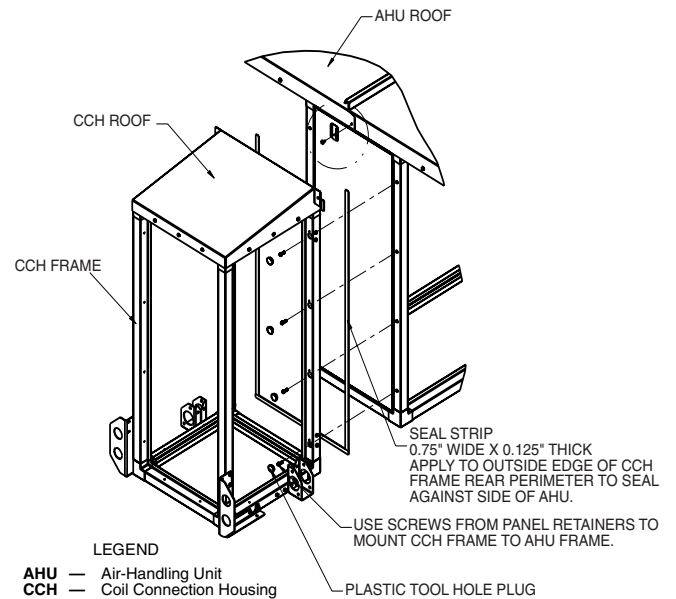

Fig. 42 — Assembly Seal Strip
6. Assemble seal strip to back side of the coil connection housing frame as shown in Fig. 42.
8. Remove plastic tool clearance hole plugs and use panel retainer screws to mount the coil connection housing frame and roof to air-handling unit as shown in Fig. 42.